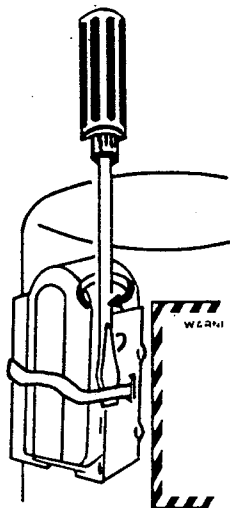

Figure 30. Compressor Terminal Cover
2. Remove the compressor terminal cover by inserting a standard screwdriver under the terminal cover retaining clip from the left side of the freezer and gently pry off (Fig. 30).